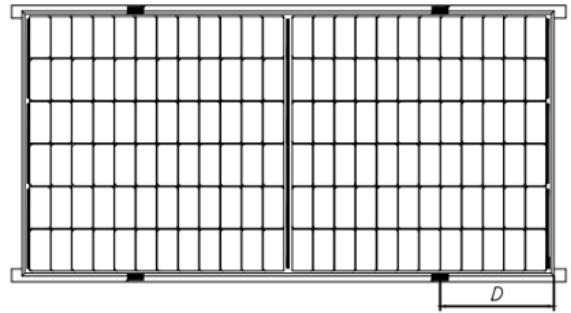

Fig.3 Rails overlapping the long-side frame
When double-sided PV modules are installed, each PV module must be fixed with at least 4 presses, as shown in Figures 3、4、5
- ⑧ For the installation method shown in Fig. 3, the module needs to be fixed with professional clamps (as shown in Fig. 9), and the overlap between the C side of the module and the rail should be  $\geq 15\text{mm}$ . Astronergy's limited warranty will be void if improper clamps or improper installation is used.